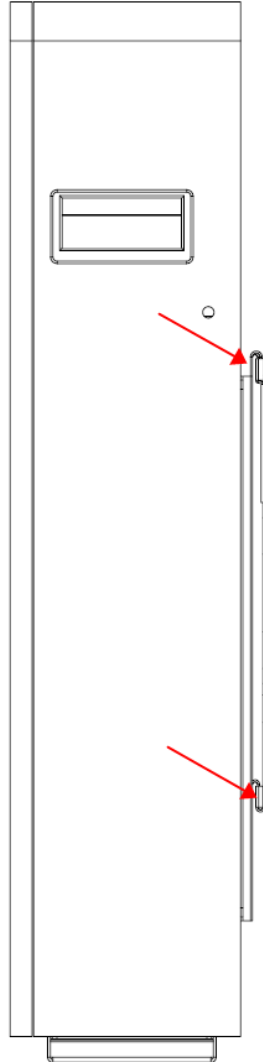

Figure 5-3
- g) Carry the battery and holding it, Fix the battery on the plate after fixing the hanging plate to the wall. Ensure that the upper and lower positions of the battery backplane hook are accurately buckled on the hanging plate, as shown in Figure 5-3.